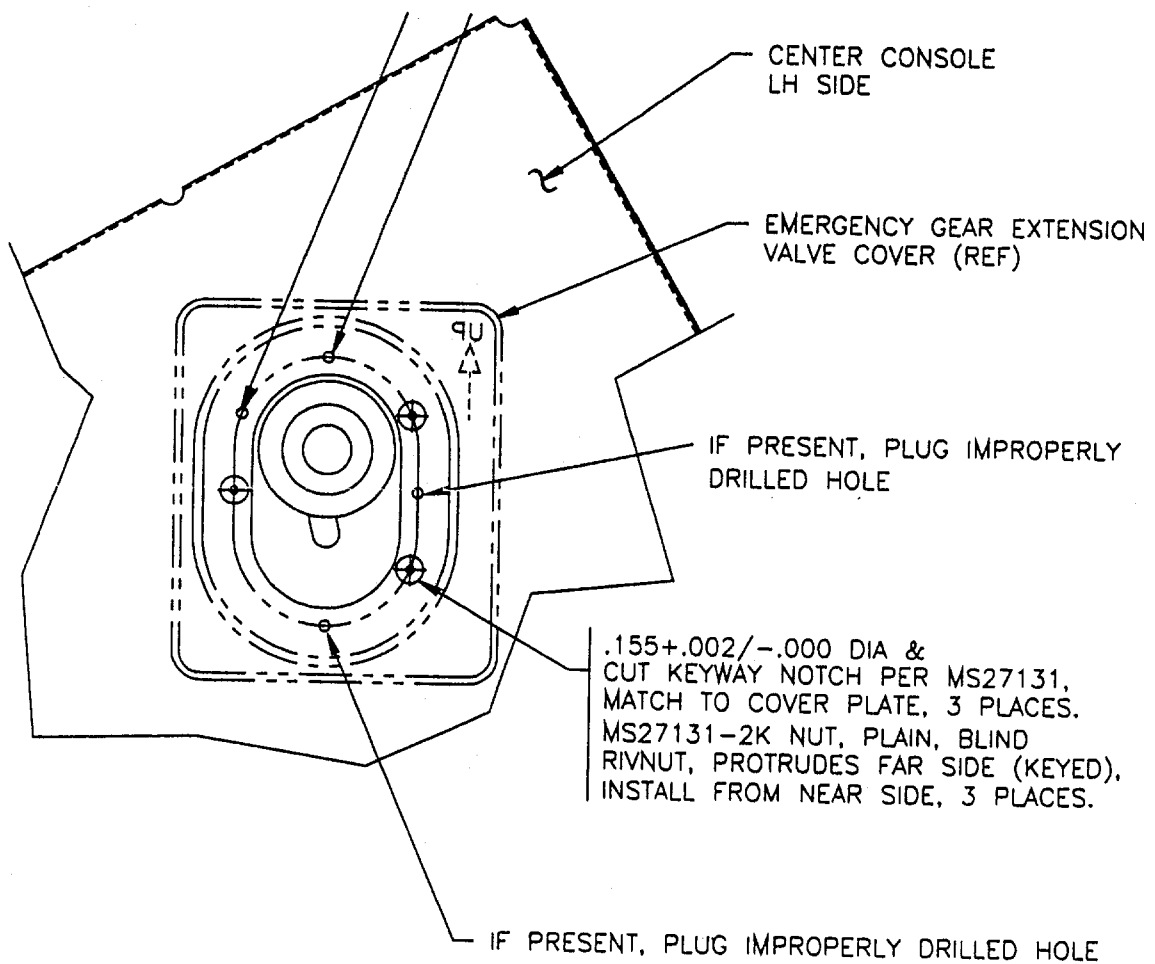

Figure 5.
7. Cut the keyway notches in the three attachment holes as shown in Figure 5. Install three MS27131-2K Rivnuts.